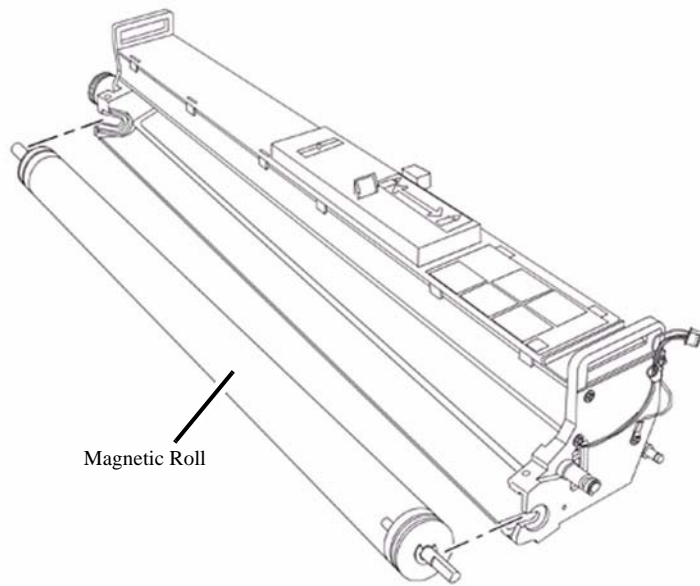

Figure 3 Removing the Magnet Roll
8. Remove the Magnet Roll (Figure 3).